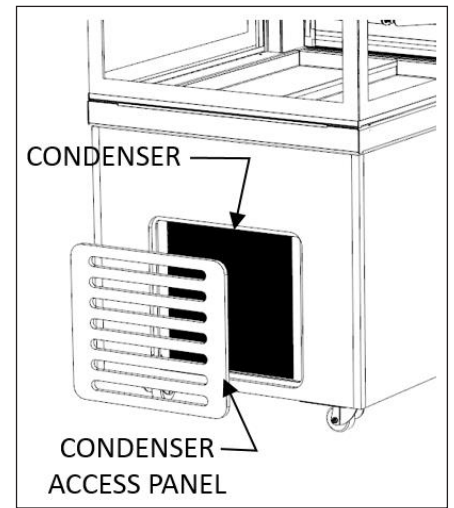

Figure 4 - Condenser cleaning - 600mm wide units
- (a) The Condenser is located on the front (customer facing) side of the unit. See Figure 4.